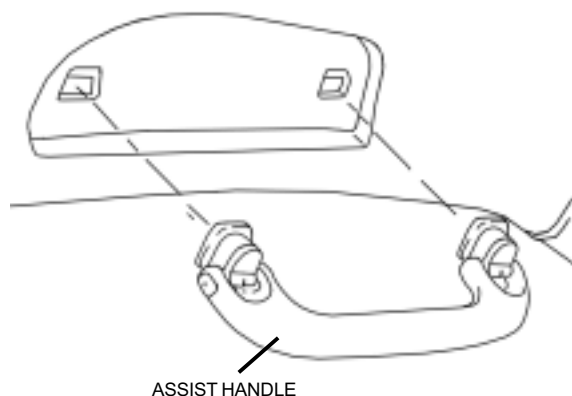

FIGURE 18
- 2.) PULL THE ASSIST HANDLE OUTWARD AND REMOVE IT. (SEE FIGURE 18)